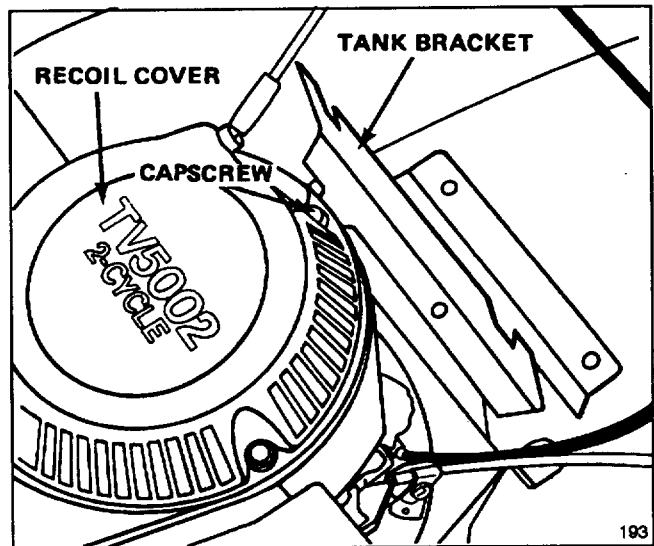

Figure 2
1. Remove back capscrew from recoil cover (Fig. 2). Slide tank bracket under edge of recoil cover, aligning holes in tank bracket and recoil cover (Fig. 2). Reinstall capscrew.